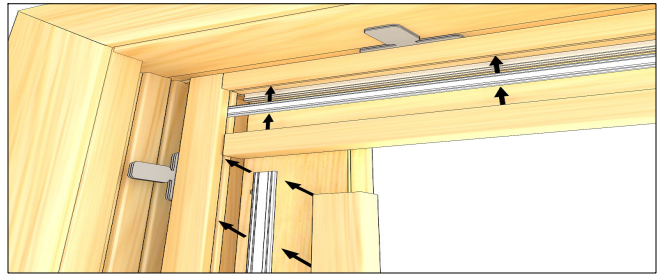

Figure 5
9. Remove tabs and replace jamb covers and head jamb parting stop. See Figure 5.